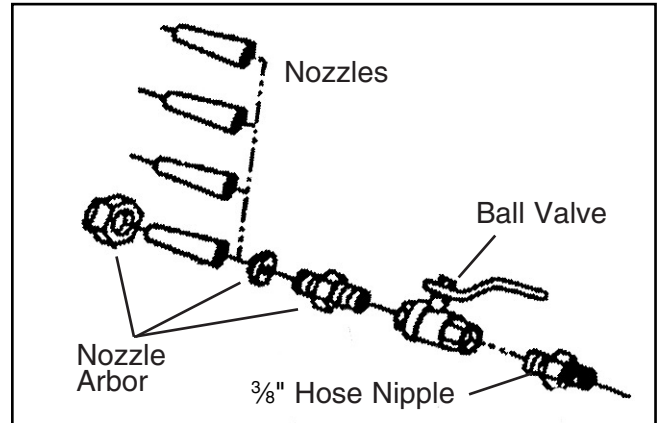

Figure 3. Sand blaster handle and nozzle assembly.
3. Assemble one of the remaining three ball valves with a $\frac{3}{8}$ " hose nipple, and the nozzle arbor as shown in **Figure 3**.
4. Install one of four sand blasting nozzles into the nozzle arbor as shown in **Figure 3**.